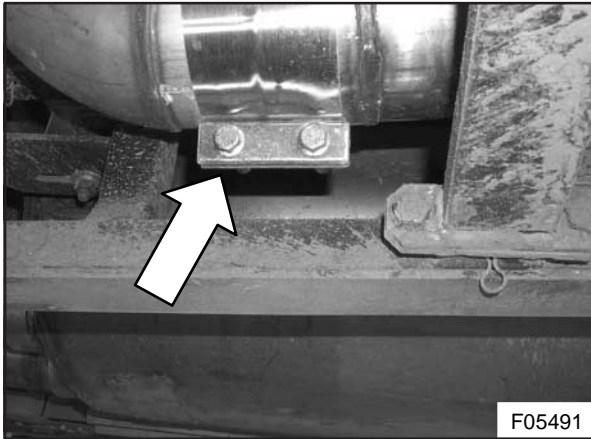

Figure 2 : Downpipe sealclamp
- 4) Working underneath the coach, undo and remove the two bolts securing the sealclamp (see Figure 2).